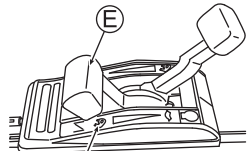

Fig. 16
2. Set the throttle lever (E) to "START" to start mowing. (See Fig. 16)